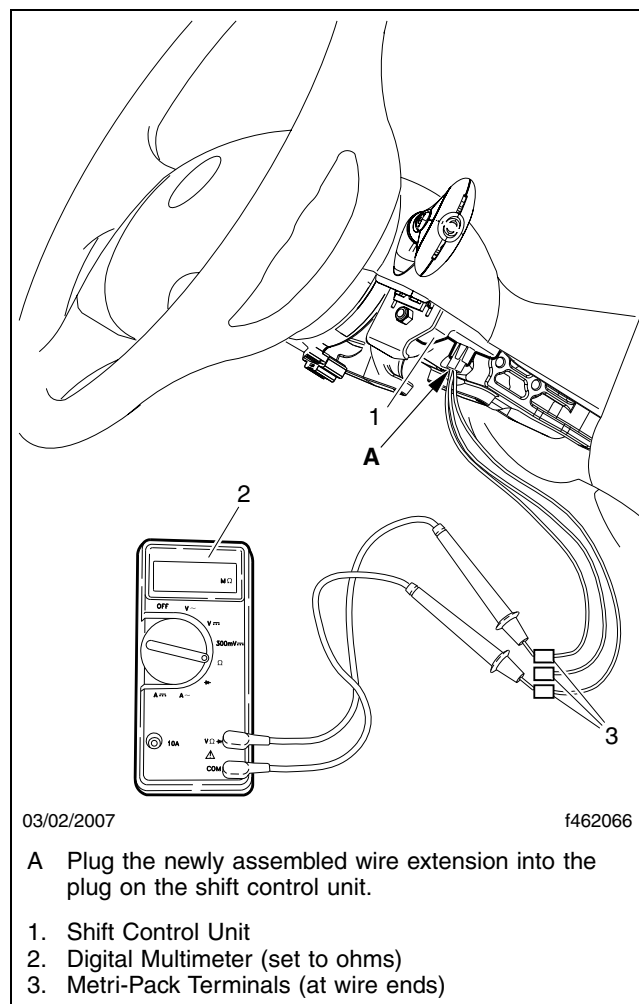
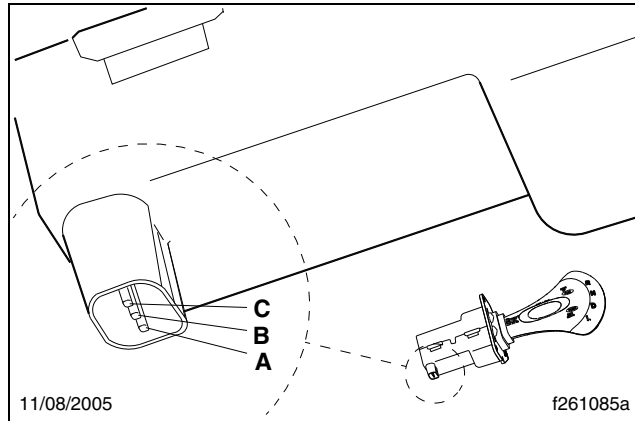

Fig. 4, Resistance Checking at Shift Control
Fig. 5, SmartShift Terminal Positions
- 2.4 Plug the wire extension into the plug on the shift control unit. See **Fig. 4**.
- 2.6 Check the resistance at the end of the wires. See **Fig. 4**. To identify terminal positions, see **Fig. 5**. For resistance values, see **Table 2** and **Table 3**.